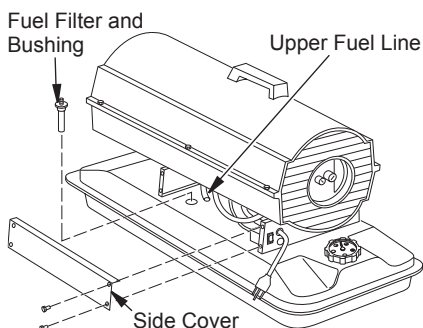

Figure 18 - Fuel Filter Removal, 40/50/55/60/70 Models
3. Pull upper fuel line off fuel filter neck (see Figure 18 or 19).
3. Remove 4 side cover screws with a 5/16" nut driver. Remove side cover (see Figures 18 or 19, page 10).
12. Replace side cover (see Figures 18 or 19, page 10).
2. Remove side cover screws using 5/16" nut driver (see Figure 18 or 19, page 10).